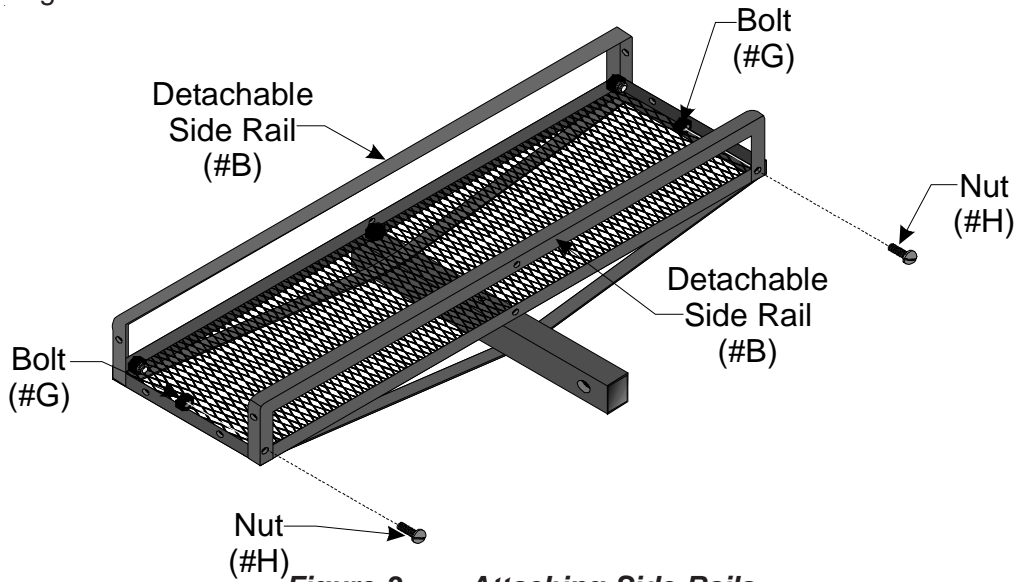

Figure 3 — Attaching Side Rails
Step 1: Attach one DETACHABLE SIDE RAIL to the outside corners of the BED FRAME as shown in Figure 3. Assemble with one BOLT (#G) and one NUT (#H) per corner. Tighten the NUTS.